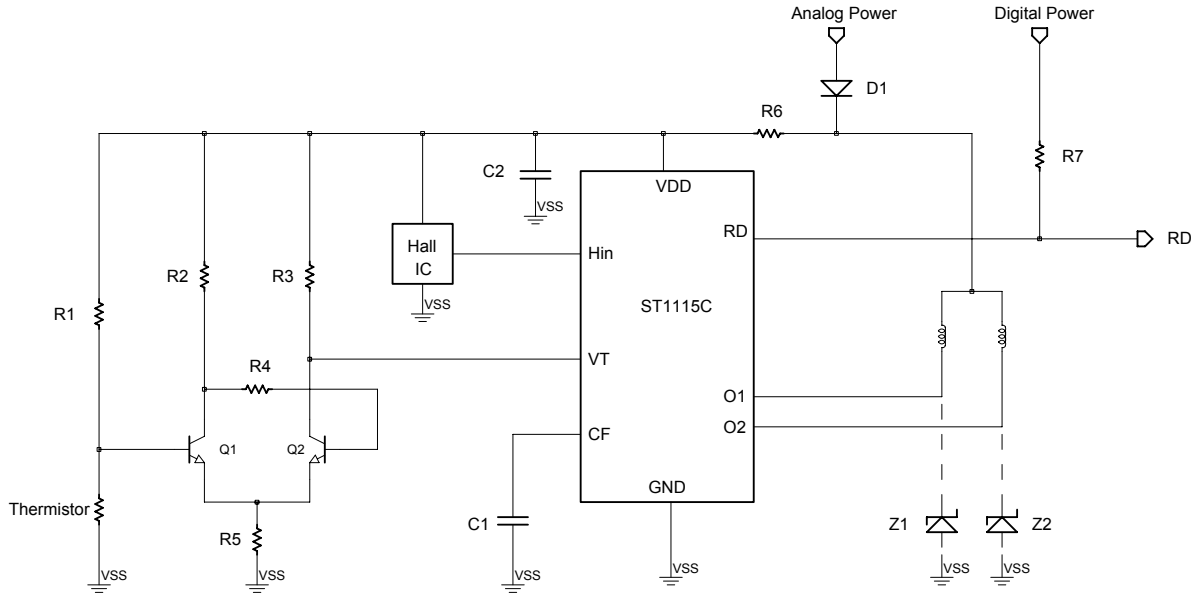
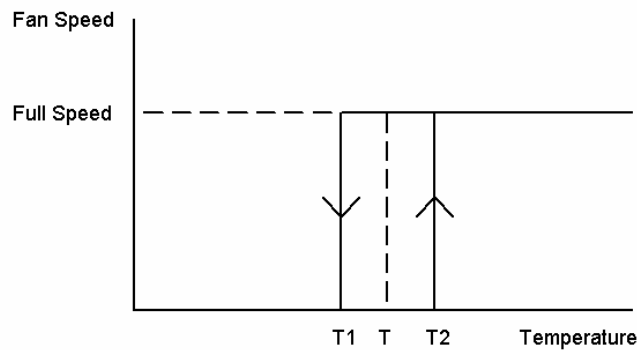

Figure 3. Temperature-control Fan Switch (where ST1115C is shown for illustration).
Figure 4.
2. **Temperature-control Fan Switch** —Refer to Figure 3.
(1) Figure 3 shows the temperature-control fan switch circuit, where the fan either stops or rotates at the full speed, depending on some temperature threshold. Figure 4 indicates the graph of the fan speed as a function of the temperature. The temperature threshold is T with the hysteresis T_2-T_1 .